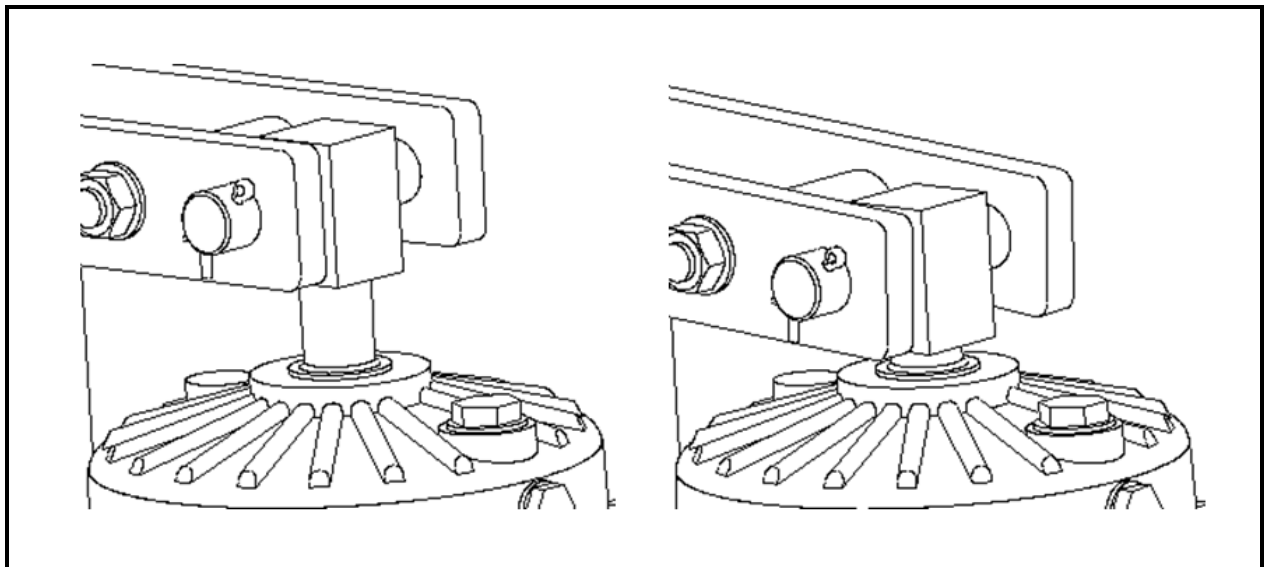

Fig. 8.4
If the thruster rod like Fig. 8.4 right side representation full inside the thruster there is the danger you will loose the hole clamping force. This state must be avoid.
- The spring pre-load can also be checked if you are measuring the travel of the thruster stroke item 1 on applying the brake. A travel of 1/3 of the max stroke is normal. If the distance travelled becomes greater, adjusting/readjusting may be necessary in order to achieve the maximum braking torque again.
- If the thruster rod like Fig. 8.4 right side representation full inside the thruster there is the danger you will loose the hole clamping force. This state must be avoid it is necessarily to adjust before!
If the thruster rod like Fig. 8.4 right side representation full inside the thruster there is the danger you will loose the hole clamping force. This state must be avoid it is necessarily to adjust before!